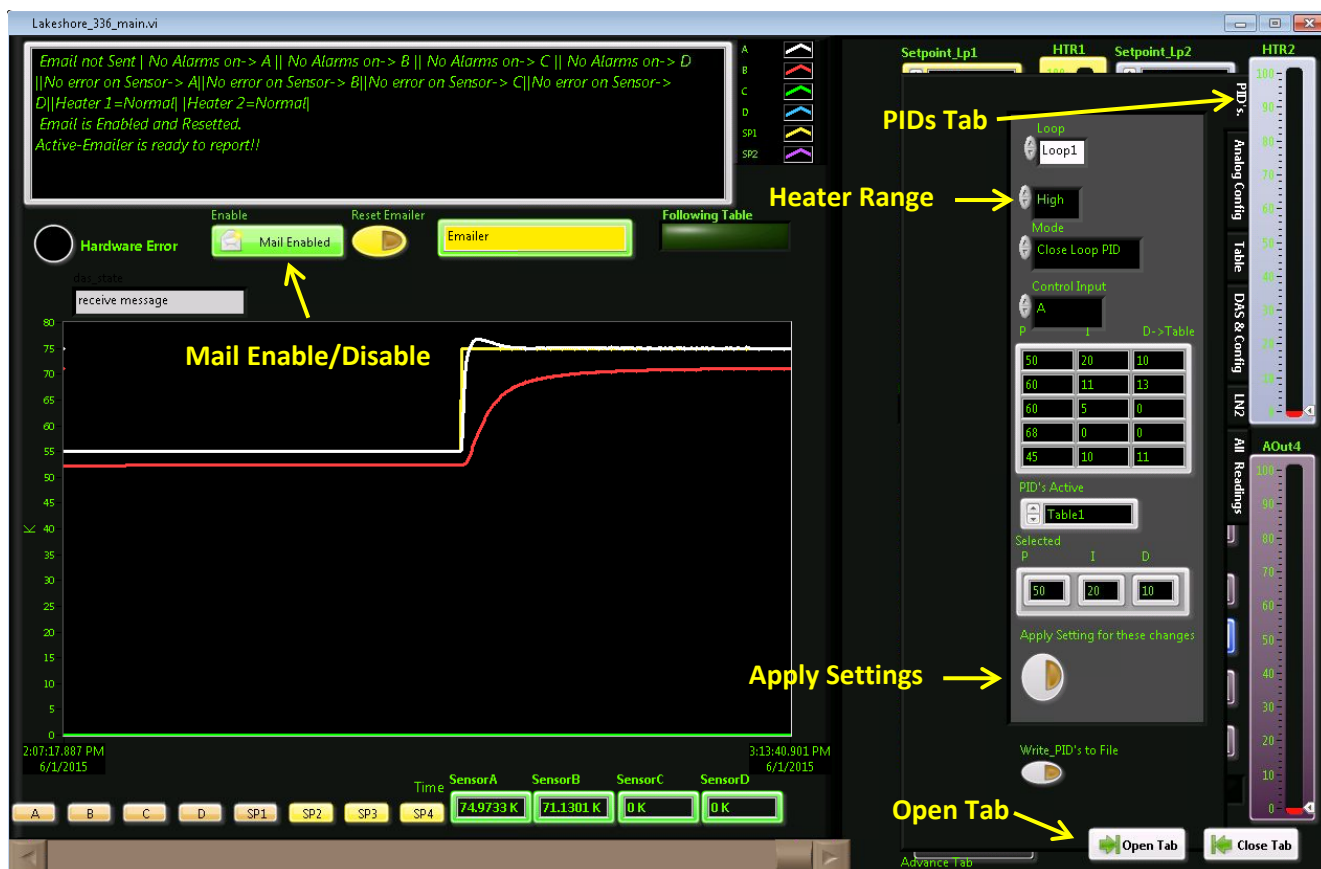

Figure 1. Lakeshore_336 control application on the Sample Environment computer.
- a. On the Sample Environment computer, disable the emailer on the Lakeshore_336 application by clicking the “Mail Enabled” button (Figure 1). The status window at top will flash red after a few seconds.